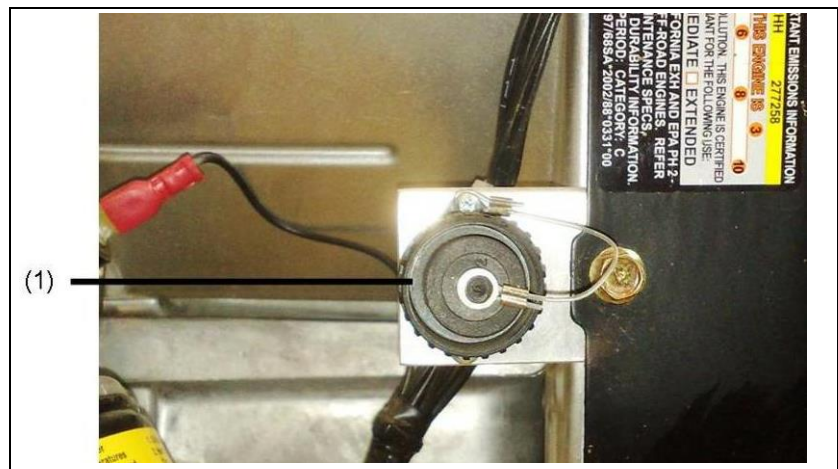

Fig. 5-4: Connecting up a remote start device
1. Unscrew protective cap on the remote start socket (Fig. 5-4-(1)).
2. Screw protective cap onto the remote start socket (Fig. 5-4-(1)).